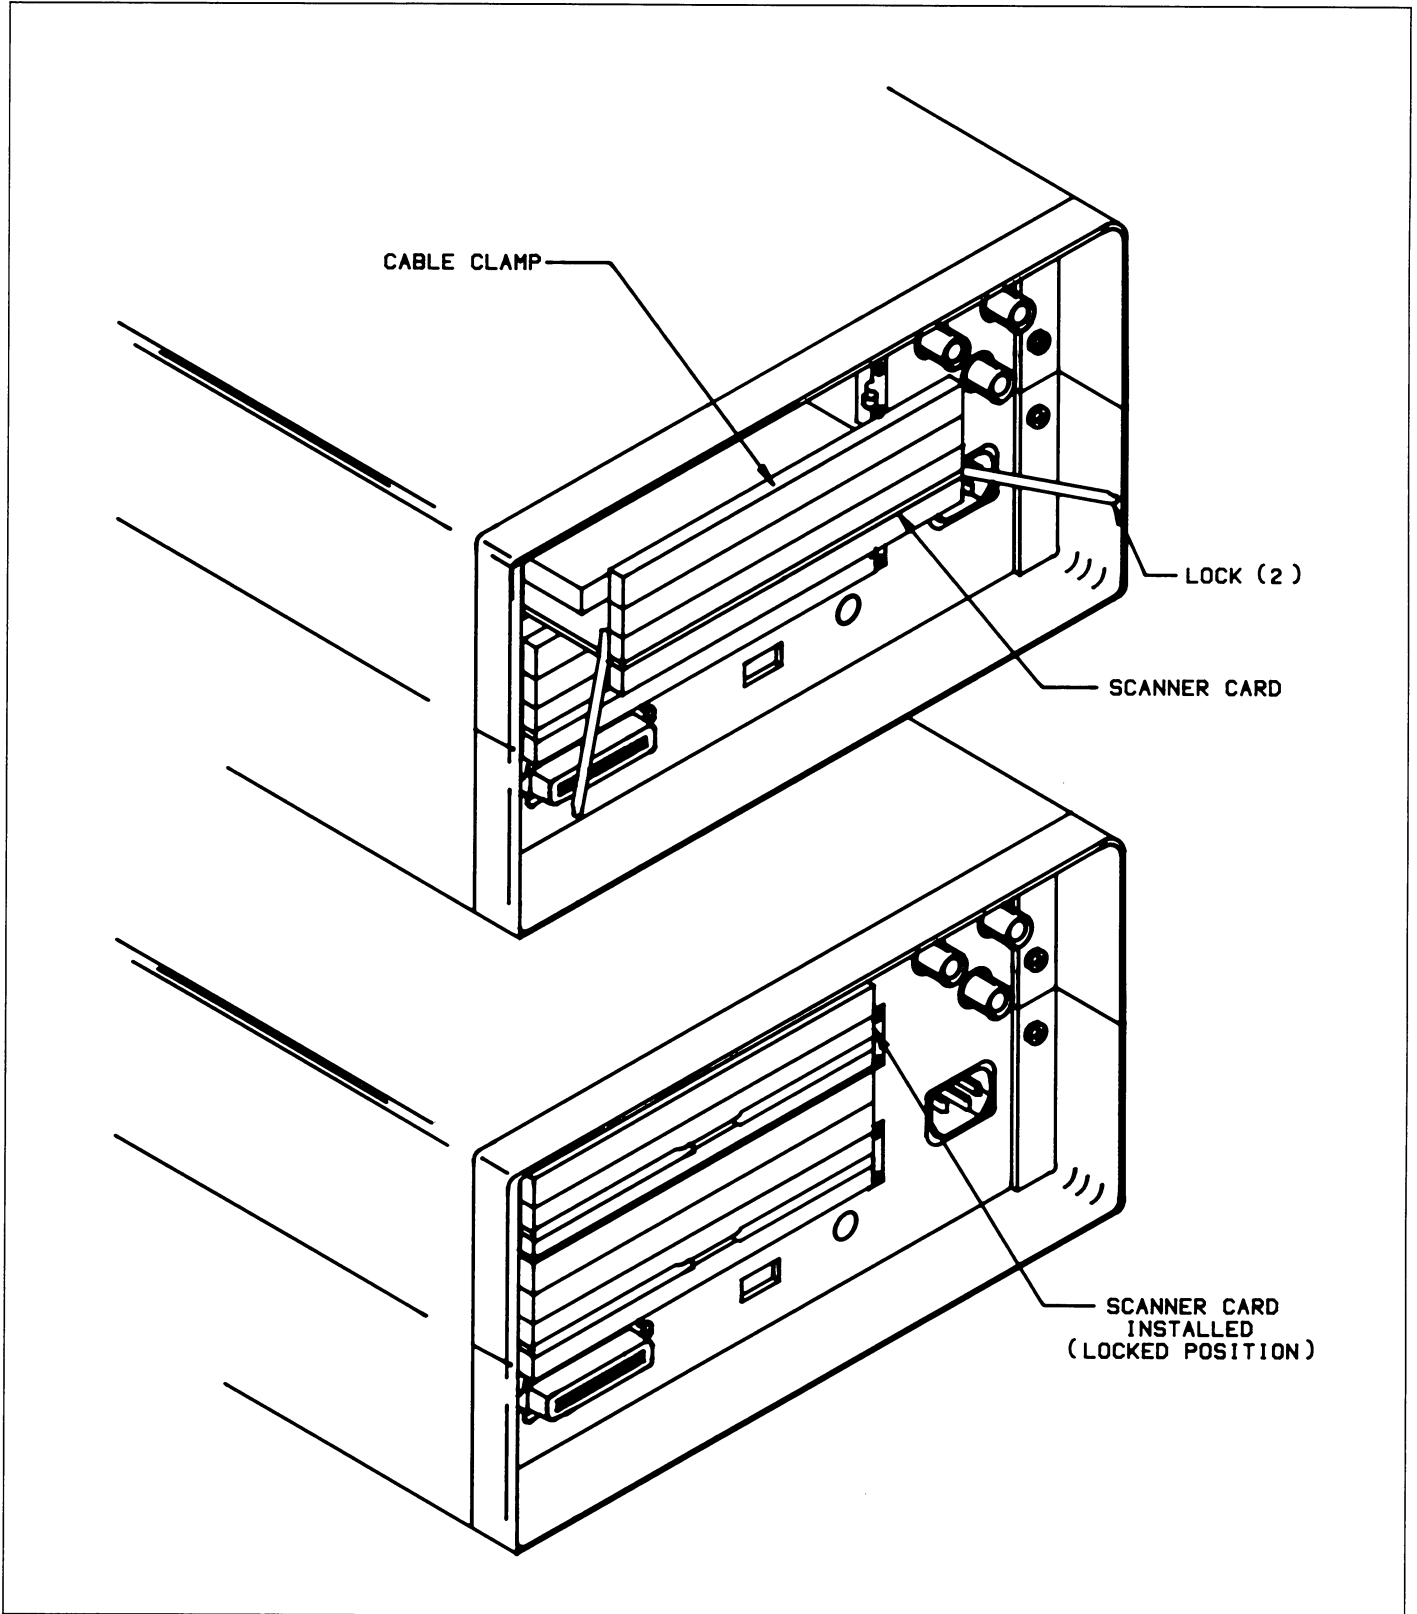

Figure 2-5. Scanner Card Installation
7. Install the scanner card into the rear panel opening with the component side facing up (see Figure 2-5). Make certain the card edges are aligned with the grooves in the receptacle. With the card fully inserted, push the locks into the locked position.